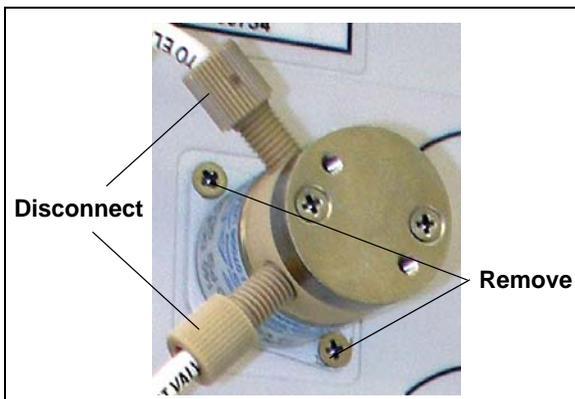

Figure 5-18. Eluent Valve
4. Disconnect the two liquid lines connected to the eluent valve (see Figure 5-18).
5. Unscrew and remove the two screws that attach the valve to the component panel (see Figure 5-18). Save the screws.